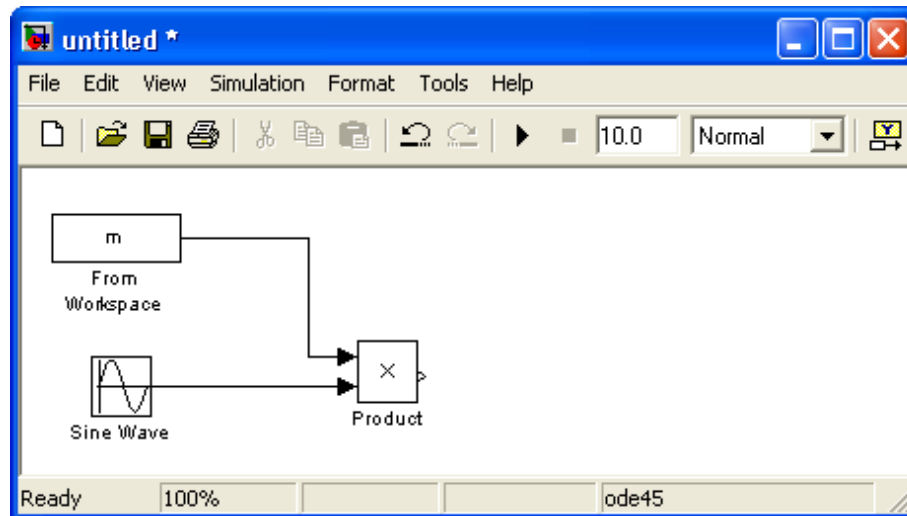

Figure 16: Connected Blocks
2. Connecting the ports involves moving the arrow cursor over the Output Port of the From Workspace block (observe that the arrow changes into a cross-hair), then click and hold the left mouse button and drag the line to the Input Port of the Product block and release the left mouse button. Perform the same operation to connect the Sine Wave block to the Product block. The result is shown in Figure 16.